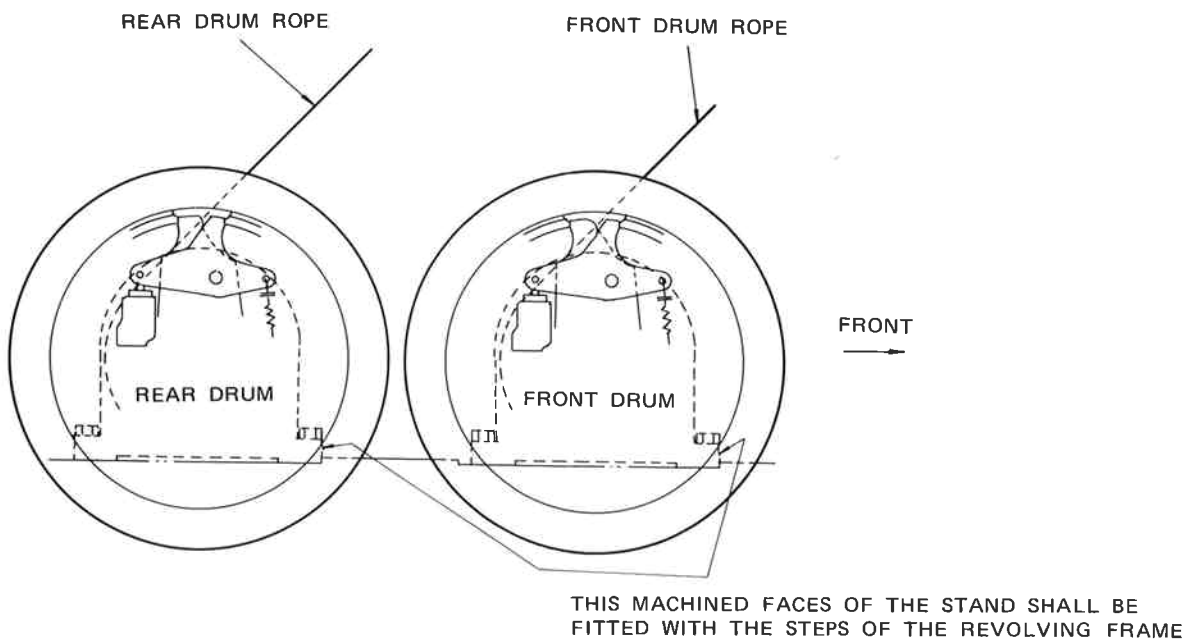

Fig. 4 Installation of the Front and Rear Clutches and Drum Assemblies
- 2) Using a lifting device of appropriate capacity, insert reducer (5) onto drumshaft (6).
- 3) Install retainer (8) on reducer (5) with capscrew (4). Tighten capscrew (4) to 6.0~7.4 kgf·m.
- 4) Lift the main winch assembly with the lifting device of suitable capacity, and position it on the revolving frame so that the machined faces of the right and left stands contact the steps of the revolving frame, as shown in Fig. 4.
- 5) Tighten 4 capscrews (30) alternately to 85~105 kgf·m to mount the left stand to the revolving frame.
- 6) Tighten 2 capscrews (31) alternately to 171~209 kgf·m to mount the right stand to the revolving frame.
- 8) Install swivel joint (19) on shaft (6).